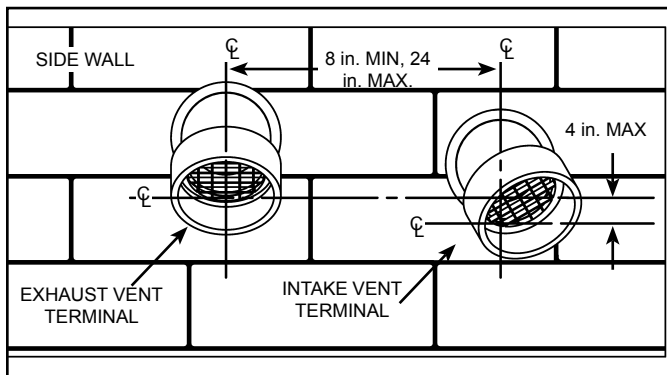

Figure 22
Important: When terminating the vent on a side wall, the following specifications pertaining to terminal location must be followed (see Figure 22).
4. To avoid exhaust recirculation, the air intake terminal may be rotated away from the exhaust vent terminal (see Figure 22).